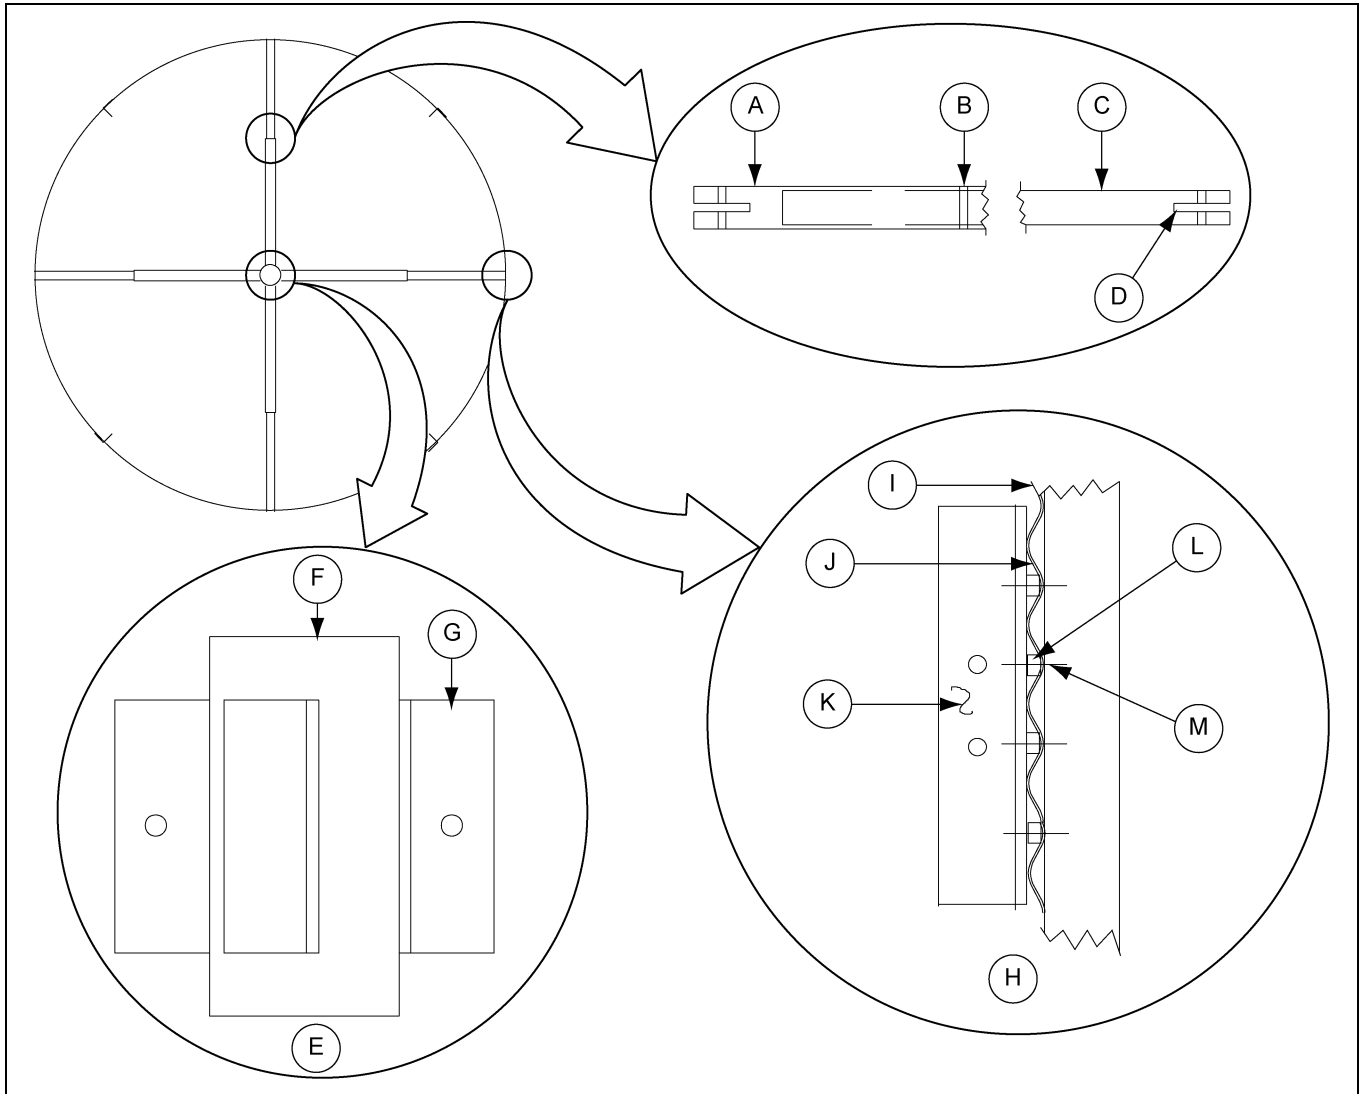

Figure 18C
- b. To prevent distortion of the assembled tank a “spider” or horizontal bracing is recommended. A suggested method of this is illustrated in the following details. This may be done by using a center “hub” and pipe. The center hub would typically be made of 6" schedule 40 pipe with four (4) 3" x 3" x 3/8" angles welded to it and the pipe bolting to the hub. The second smaller pipe would bolt to the lifting brackets attached to the stiffeners. *(See Figure 18C on Page 62.)* Four (4) horizontal braces are recommended.